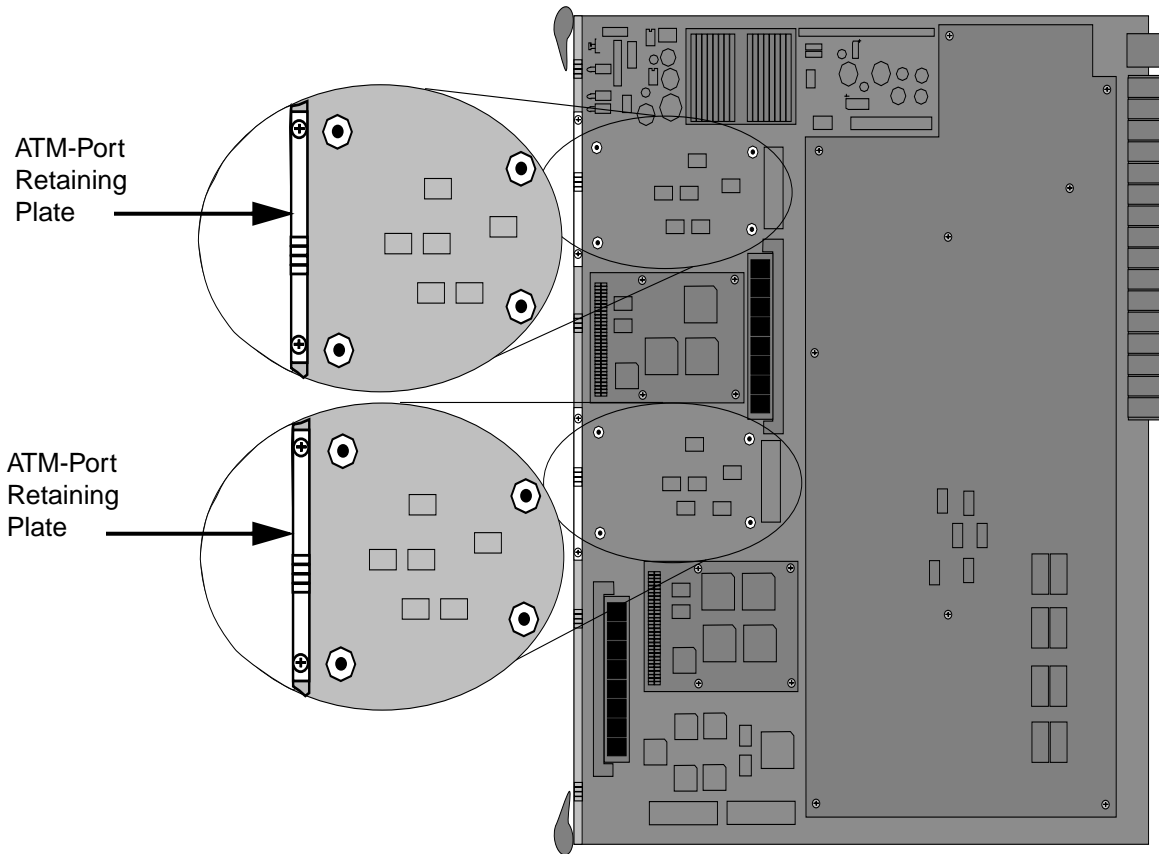

Figure 2-4. The 9A426-02 Module (APIM installation area in insert)
1. Place the module (component side up) on a non-conductive, flat surface. Position the module so that the module's front (faceplate) is to the left and the module's back (backplane connectors) is to the right. See Figure 2-4.
2. Locate the module's ATM-Port Retaining Plates. Each plate is secured by two screws and is located on the right side panel of the module's faceplate. See Figure 2-4.
2. Locate the area on the module where APIMs can be installed (shown in Figure 2-4). This area contains eight standoffs (short metal posts). There are four standoffs (arranged in an irregular rectangle) for each APIM (see insert in Figure 2-4). There is a round-head screw at each end of these four standoffs.